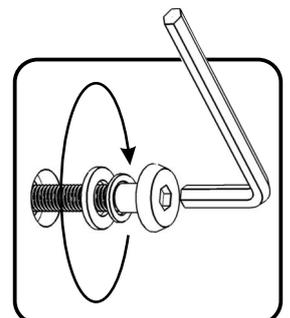

Figure 3
Attach unit to Back Panel (F) with Flat Washers, Spring Washers and Head Cap Bolts. (See Figure 3)